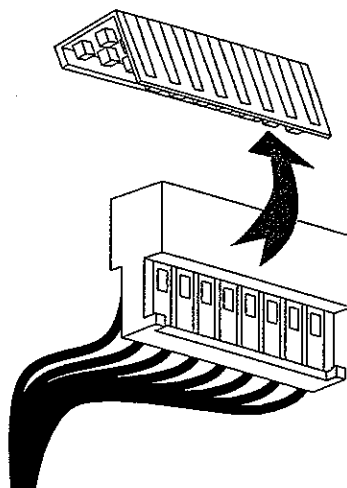

Figure 5-23. 8 Position Connector
- 7 Referring to Figure 5-23, remove the white plastic cover from the 8 position connector .